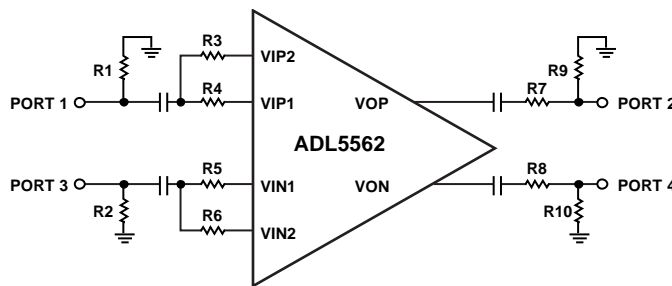

Figure 44. Differential Characterization Circuit Using Agilent E8357A 4-Port PNA
**Table 12. Gain Setting and Input Termination Components for Figure 44**
**Table 13. Output Matching Network for Figure 44**